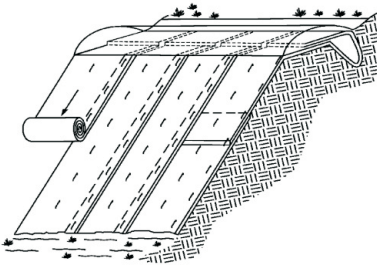

Fig. 1 Installation on slopes
- Step 2:** Unroll blanket down slope in the direction of the water flow (see Fig.1). The blanket should not be stretched but should have full contact with the soil. Anchor blanket using pins or stakes. See "Pins Pattern Guide for Slopes" below.